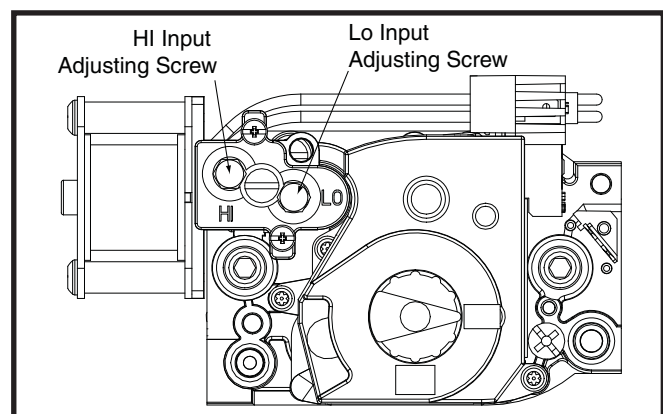

Figure 26. HI and LO Input Adjusting Screws
This furnace may be operated by a single stage thermostat by connecting to the **W** terminal. In this type of installation, the Autostage Jumper (P7) on the furnace control board (Figure 26, page 35) may be adjusted to **SHORT** (8 minutes) or **LONG** (12 minutes). If Autostage is enabled, the furnace will start in **low** fire, but after a period of time jump to **high** fire, until the heating load is met. See Low Voltage Wiring (page 21).
The Autostage setting on the furnace control board (Figure 26, page 35) is disabled when shipped from the factory. This feature will be not used when paired with a two-stage thermostat. The Autostage Jumper (P7) must be kept on the **NONE** setting to allow the thermostat to adjust stages.
- c.) Using an allen wrench, turn the adjusting screw on the HI side of the regulator to adjust the full input setting or turn the adjusting screw on the LO side of the regulator to adjust the reduced input setting (See Figure 26). **IMPORTANT NOTE: Turning the adjusting screw clockwise increases the pressure and counterclockwise reduces the pressure.**